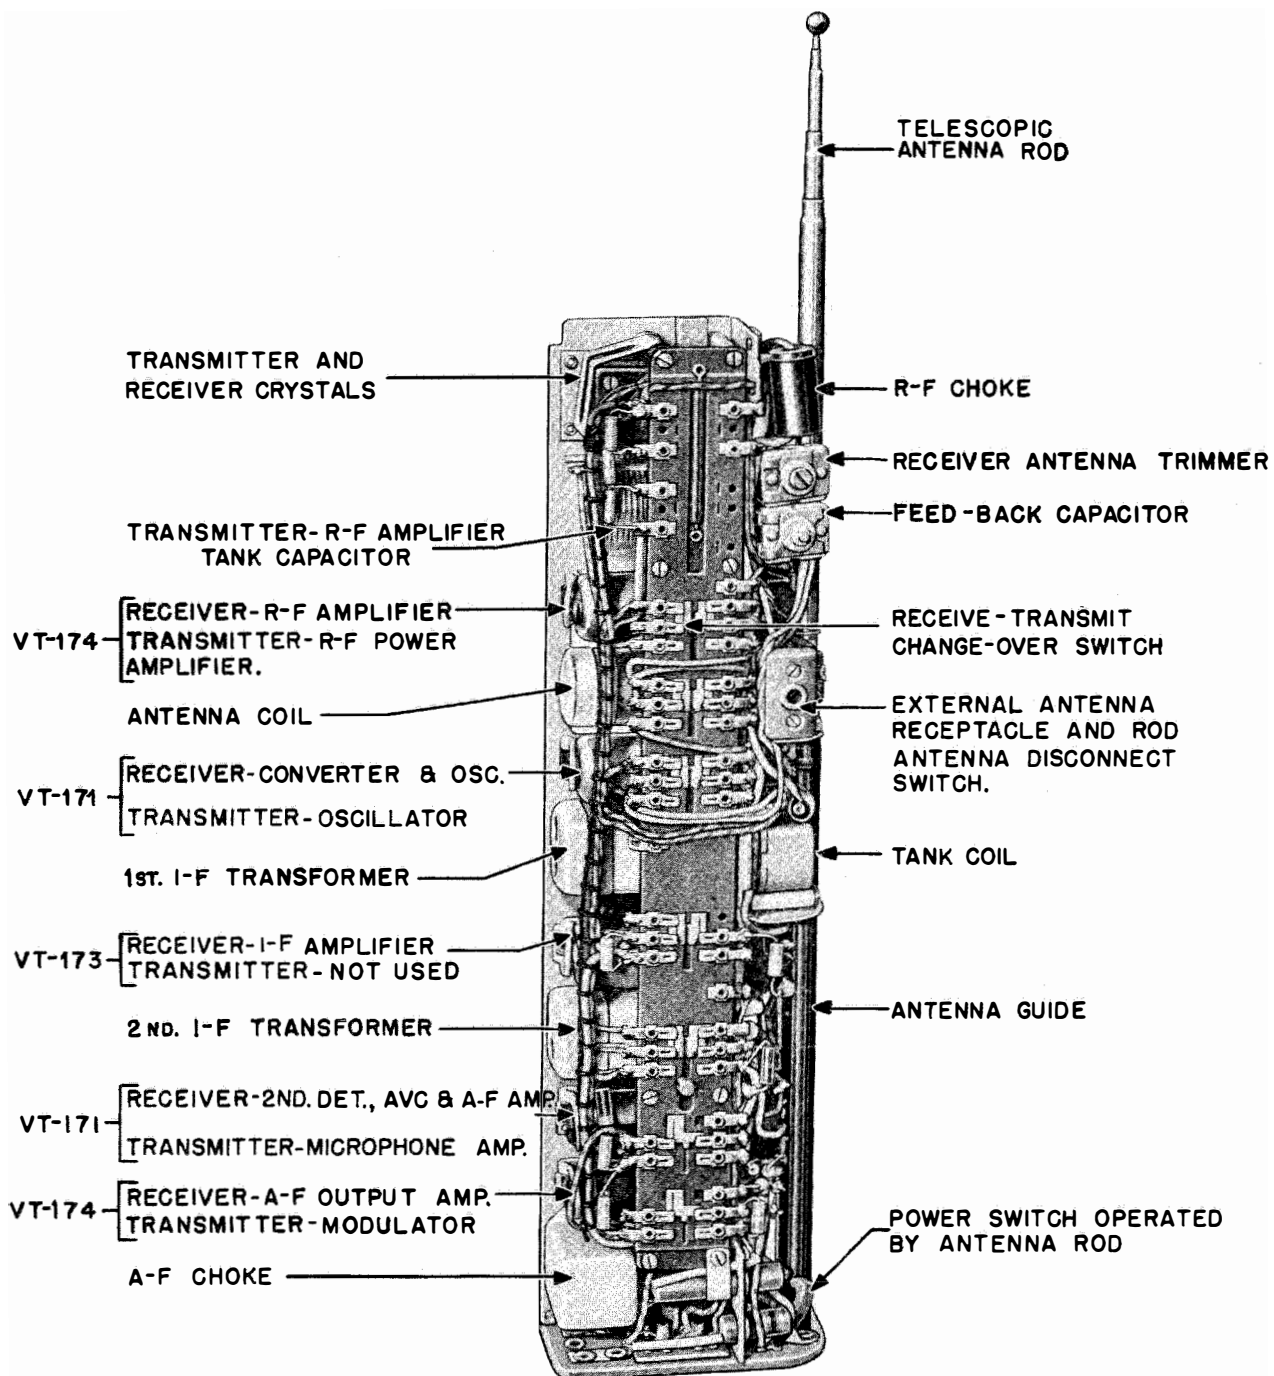
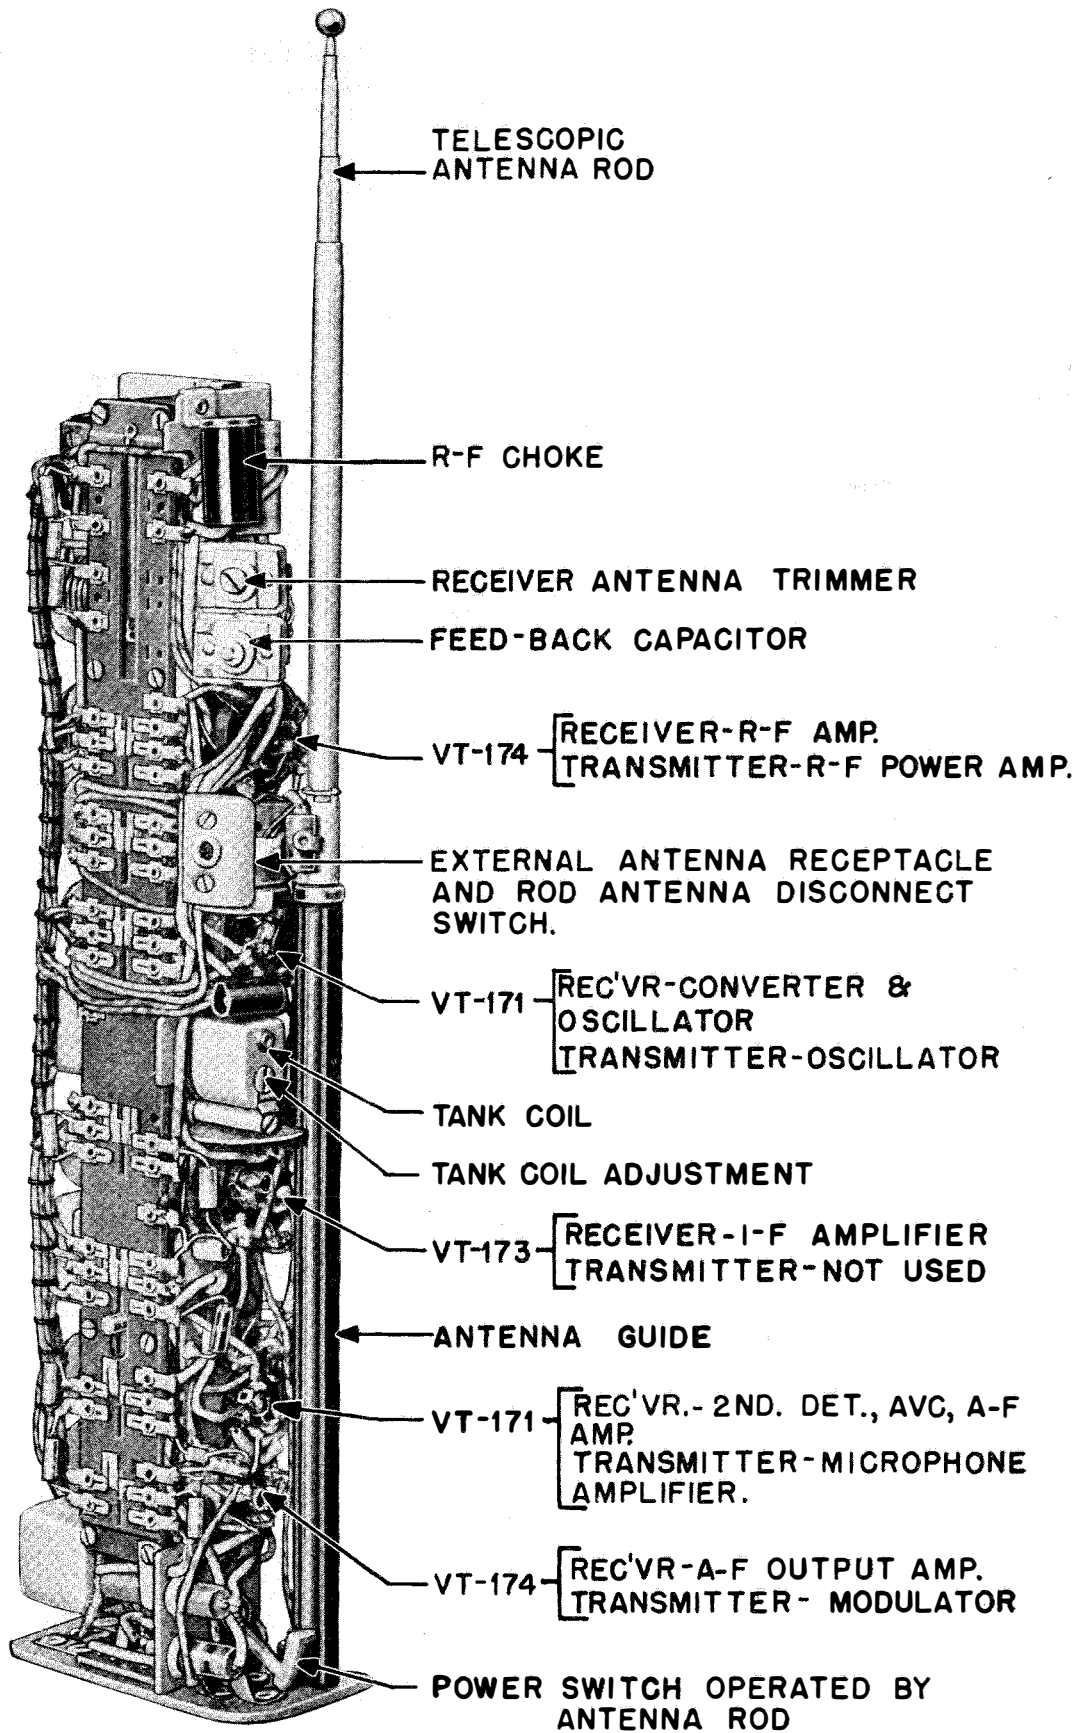

FIG. 15. RADIO RECEIVER AND TRANSMITTER BC-721-B, CHASSIS (FRONT VIEW)
FIG. 16. RADIO RECEIVER AND TRANSMITTER BC-721-B, CHASSIS (BOTTOM VIEW)
26. REPLACEMENT OF THE ANTENNA COIL.—The antenna coil is of the “plug-in” type. It can be easily removed and replaced. See Fig. 15.
27. REPLACEMENT OF THE R-F TANK COIL.—To remove the coil, loosen the screw holding down the spring clip on top of the coil; then swing the clip free of the coil. The coil can then be lifted out of the socket. When replacing, fit the coil carefully over the two pins projecting up from the socket so that the pins fit into the holes in the coil form and the coil adjustment fits into the hole in the socket. Gently press the coil into the socket and replace the spring clip on top of the coil. See Fig. 15.
30. REMOVAL AND REPLACEMENT OF THE CRYSTALS.—The crystals are mounted in “plug-in” type holders. To remove a crystal, lift up the clamp located on top of the crystal holder. This clamp pivots on a stud fastened to the chassis. Place a screw driver between the crystal holder and the socket and gently pry it up. See Fig. 15.
The antenna coil is larger and of a different shape than the tank coil. Its base connections also differ, so there can be no possibility of getting the coils in the wrong sockets. Both coils are of the plug-in type to simplify replacement. See Fig. 15, and Fig. 16.